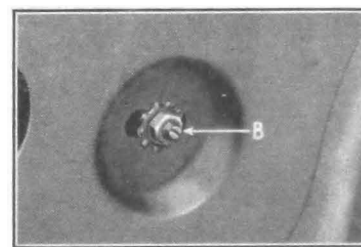

Fig. 1-59. Division Channel Attachment—Lower
- 4. Remove nut and adjusting stud at the bottom of division channel, noting before removal the length of the stud projecting out from inner panel. This will insure proper adjustment when replacing stud. See "B" Fig. 1-59. On rear doors having a center division channel, this nut and stud are accessible through the loading hole in the door inner panel.